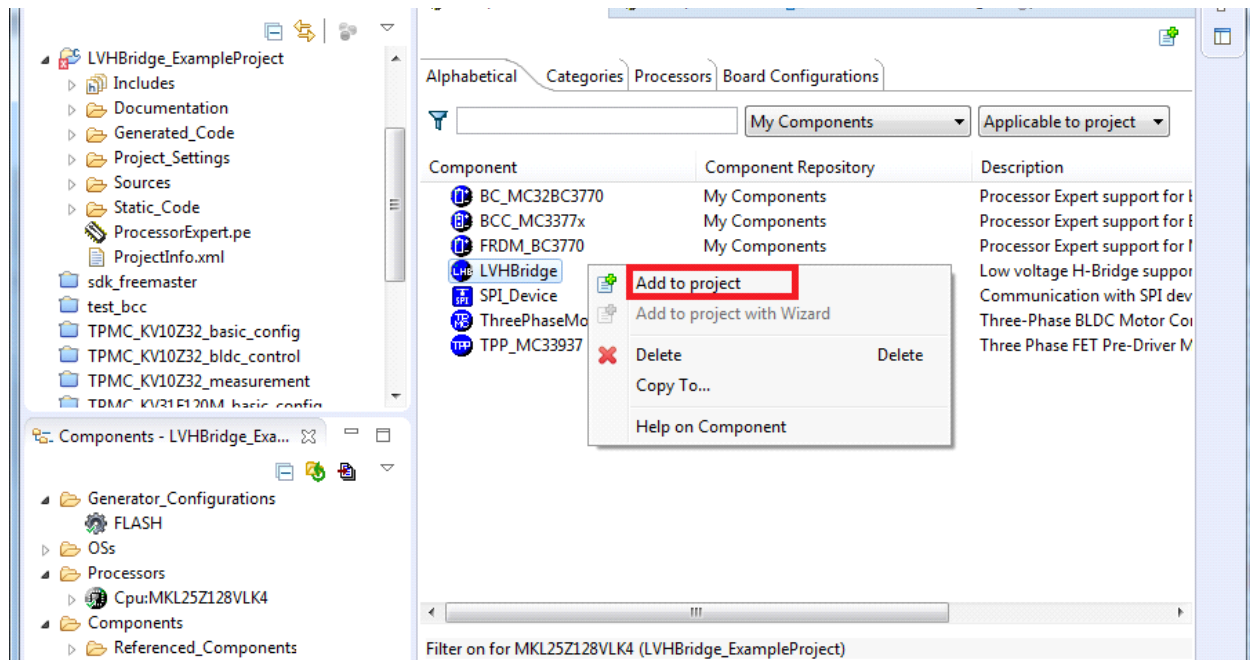

Figure 26. Adding the LVHBridge component to the project
1. Find LVHBridge in the **Components Library** and add it into the project by double clicking, dragging and dropping, or by right-clicking the mouse button and selecting the **Add to Project** option (see Figure 26).